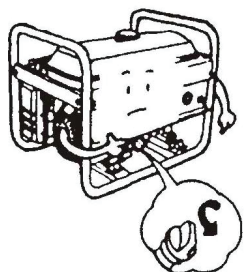

Figure 10
- Take out the oil filler cover and have the dipstick cleaned (Figure 10)